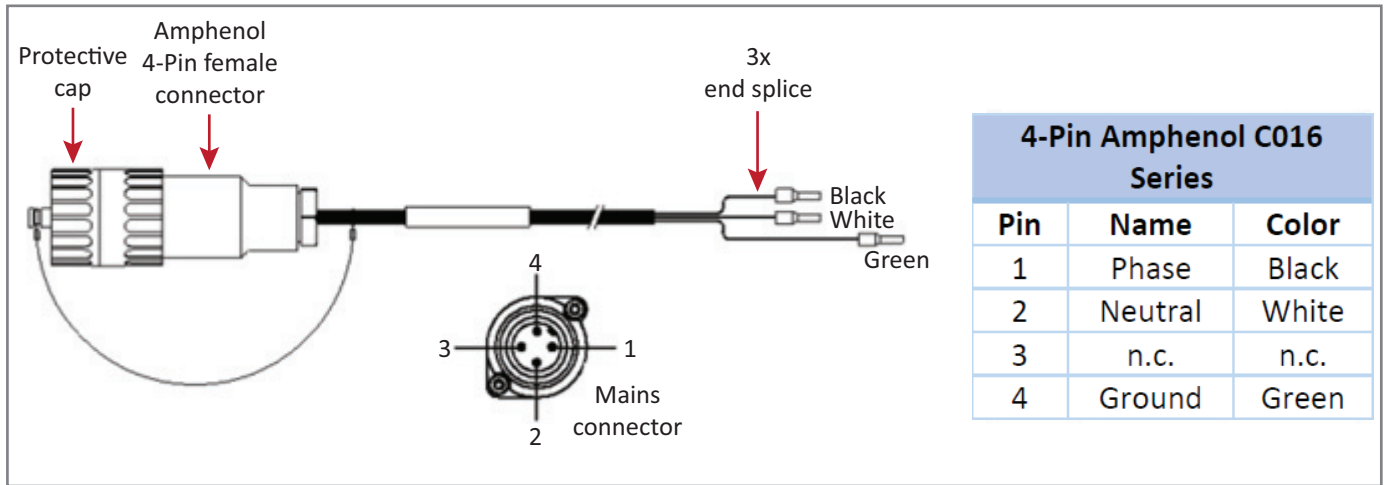
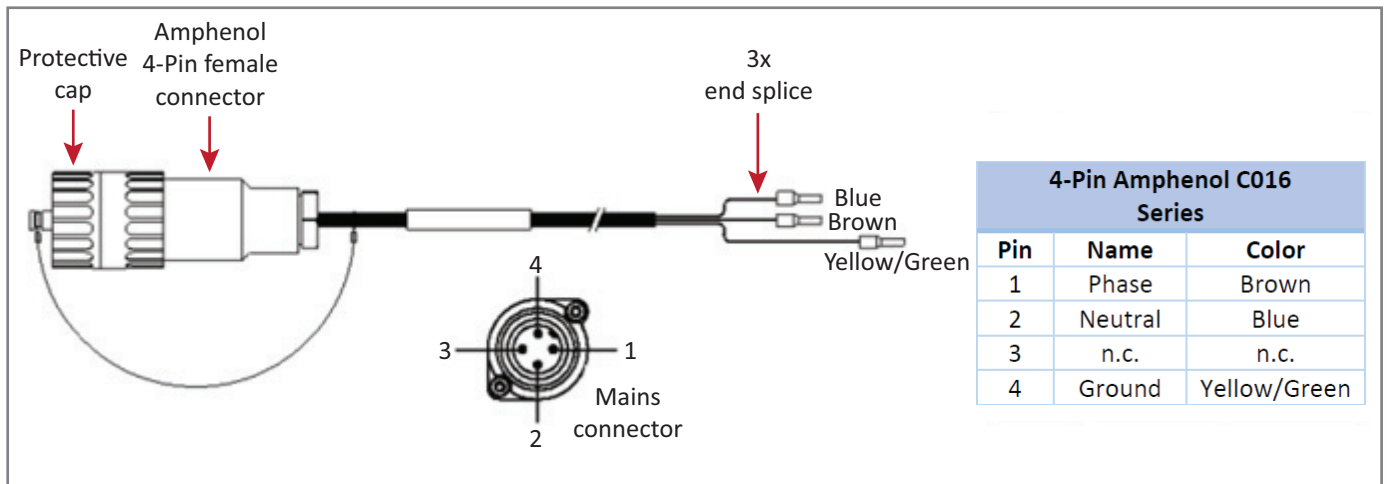

Figure 6. CAP M2 AC Power Cable US
Figure 7. CAP M2 AC Power Cable EMEA
connect to the AC power source. A 10 m (33.7 ft) AC power cable is also available as an option. The AC power cables for US and EU are shown in Figure 6 and Figure 7 respectively.
- Figure 6 on page 38 / Figure 7 on page 38 for the US or EMEA AC power cables